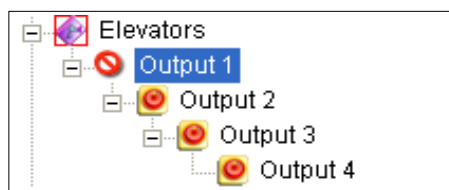
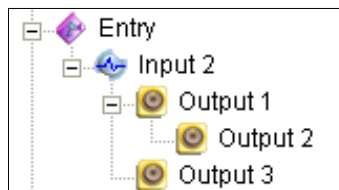

Figure 2-23
Figure 2-24
- In the Advanced I/O List, considering cascade triggers, you can only manually force the output at the top level, e.g. Figure 2-23. Other outputs at sub levels cannot be forced manually, e.g. Figure 2-24.